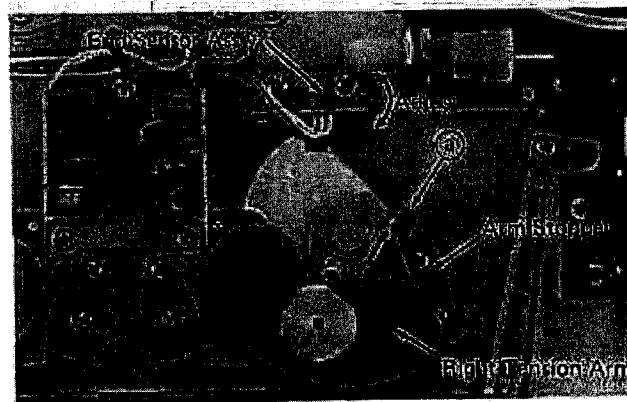

Fig. 9-4-8. Arm Stopper and End Sensor Ass'y Position Adjustments
1. Connect an oscilloscope (double trace type) to two sets of test points, TP3 and GND, and TP4 and GND, on the Control PCB Ass'y, Fig. 9-4-8.